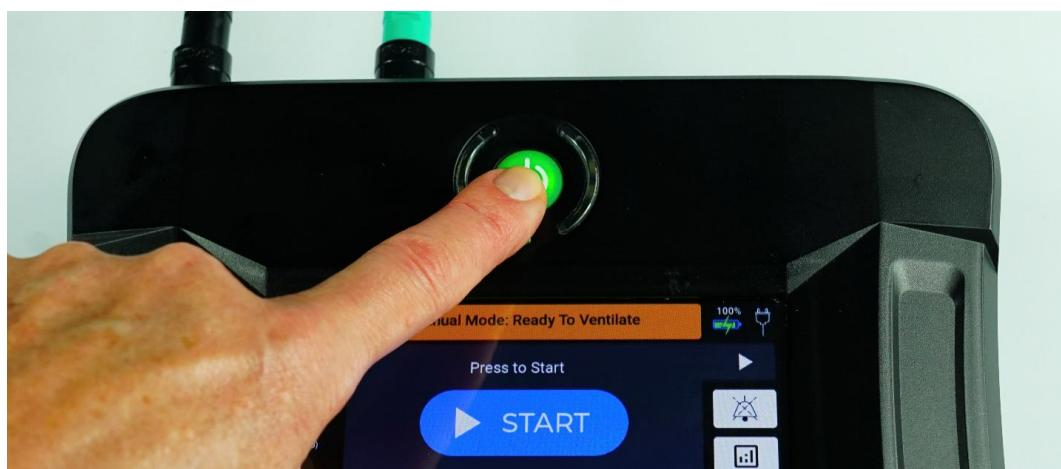

FIGURE 18: POWER ON
The ventilator can be powered on by pressing the On/Off Power Button located on the front of the device (**See Figure 18: Power On**). The device will proceed to perform an automated system pre-check of software to validate proper initialization of device software function (including controls, alarms, and ventilation). If the device successfully passes pre checks, the Operational Status bar will read: **Manual Mode: Ready to Ventilate**. If the screen does not display this message, the device has failed system prechecks. If the precheck fails, do not use device: provide alternative ventilation using backup source and have ventilator serviced.
2. Turn the ventilator on by pressing the On/Off Power Button as shown in **Figure 18: Power On**.